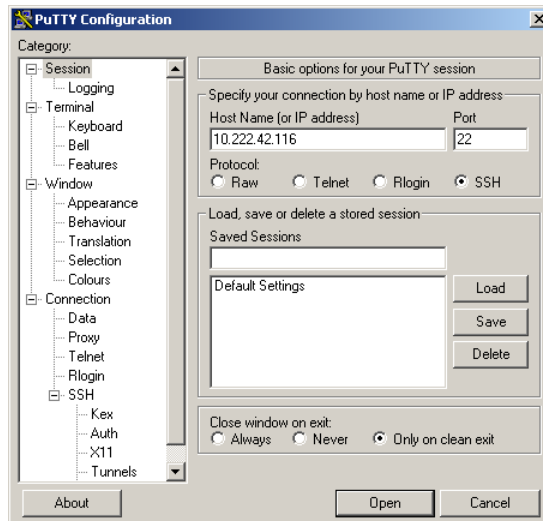

Figure 28. Example Configuration - Session Screen
3. On the Session Screen, enter the card's Host Name or IP address (see Figure 28).